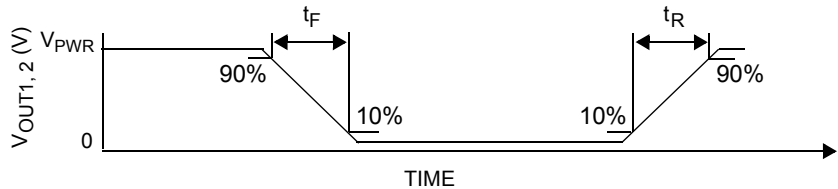

Figure 6. Output Switching Time
27. Rise Time is from the 10% to the 90% level and Fall Time is from the 90% to the 10% level of the output signal with  $V_{\text{PWR}} = 24\text{ V}$ ,  $R_{\text{LOAD}} = 3.0\text{ ohm}$ . See Figure 6, page 10.